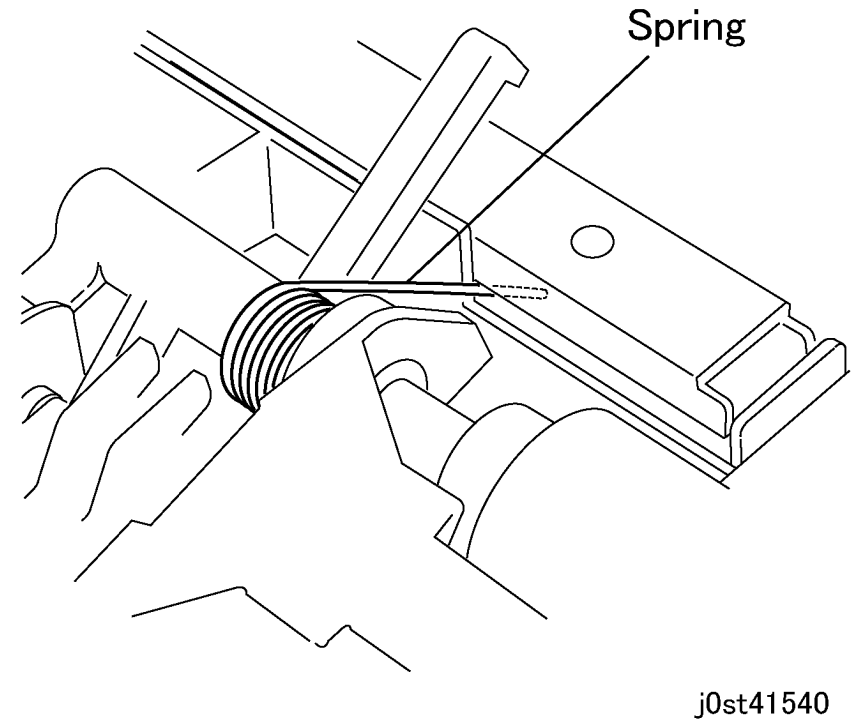

Figure 9 Hooking on the spring (j0st41540)
4. Hook on the spring when securing the Harness Guide. (Figure 9)